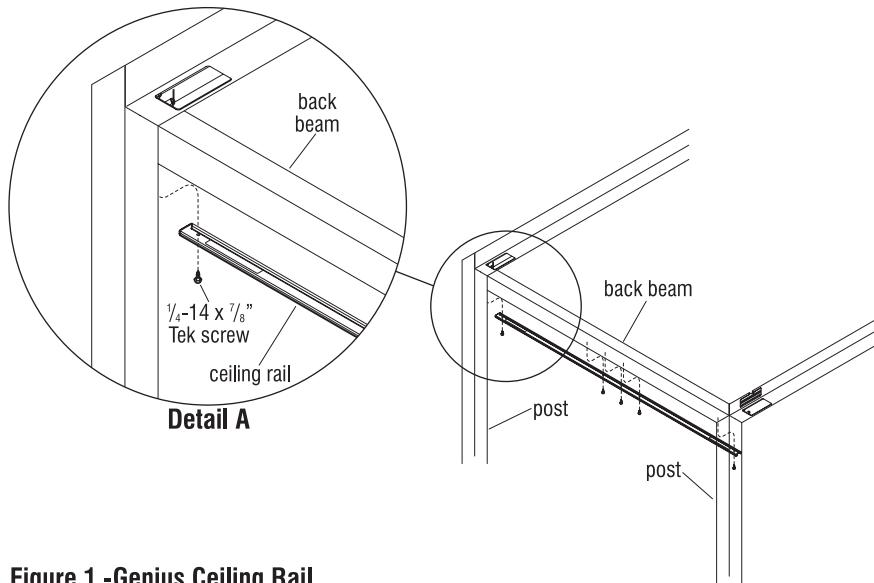

Figure 1 -Genius Ceiling Rail
1. To install a ceiling rail, first determine which pre-sized ceiling rail is required based on beam width between the posts (Figure 1).
2. Position the pre-sized ceiling rail up under the center of the beam, between posts. Align and center the ceiling rail at the underside of the beam, and install the ceiling rail to the beam using  $1/4\text{-}14 \times 7/8\text{"}$  Tek screws provided through each ceiling rail mounting hole (Figure 1 & Detail A).